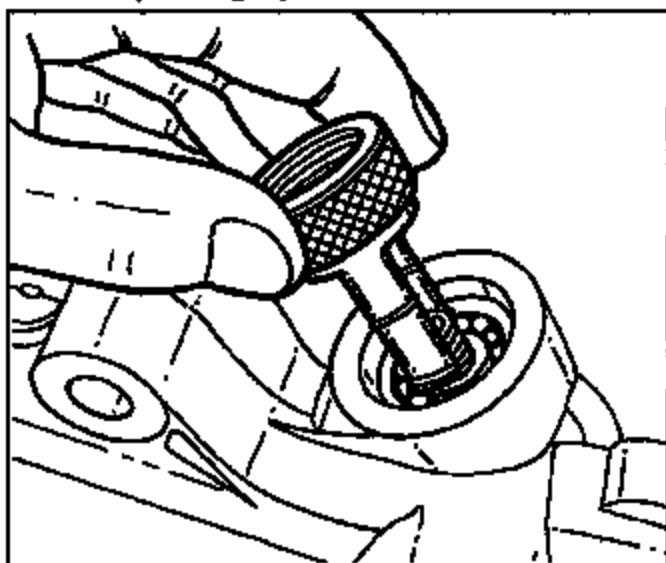

Figure 3
- STEP 6** Separate the 2 legged puller from the center nut before installing the puller into the bearing. Move the bearing balls to accommodate the 2 legged puller. (See Fig. 3)